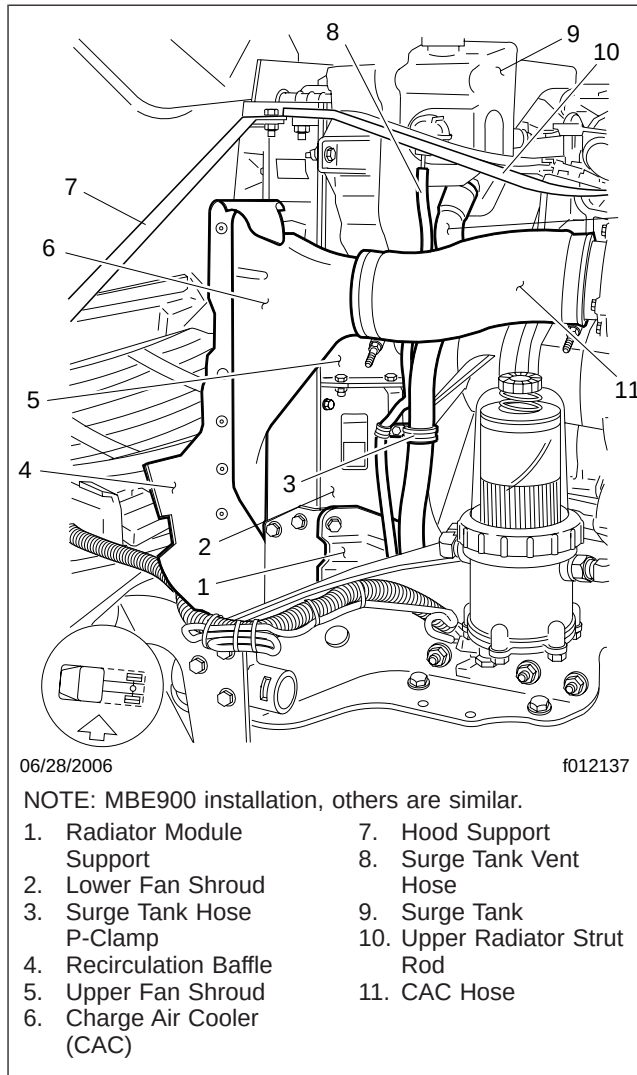
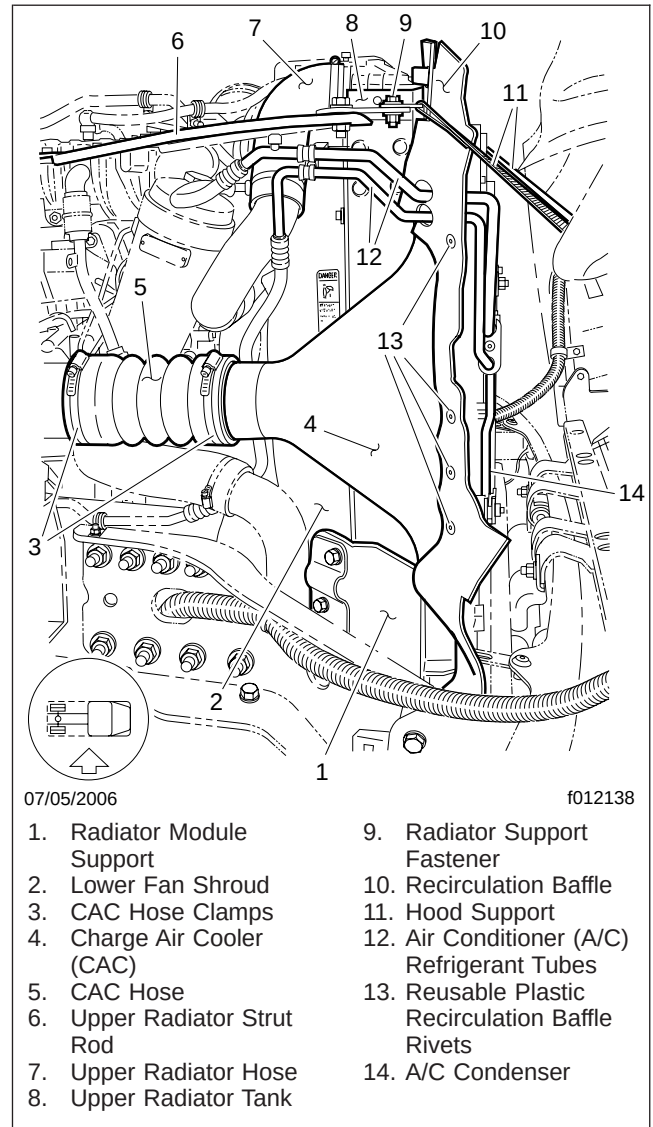

Fig. 13, Left Side Radiator Assembly
Fig. 14, Right Side Radiator Assembly
12. Disconnect the charge air cooler (CAC) hoses from the CAC; see Fig. 13 and Fig. 14.
15. Disconnect the shunt line and radiator vent line, but leave the P-clamp in place on the back of the radiator module support; see Fig. 13.